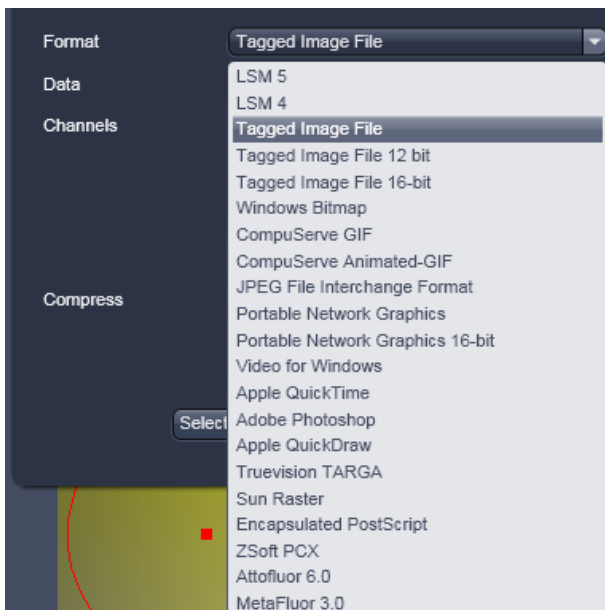

Fig. 7-15 Format selection
- Under **Format**, select the format to which the image is to be exported to (Fig. 7-15).